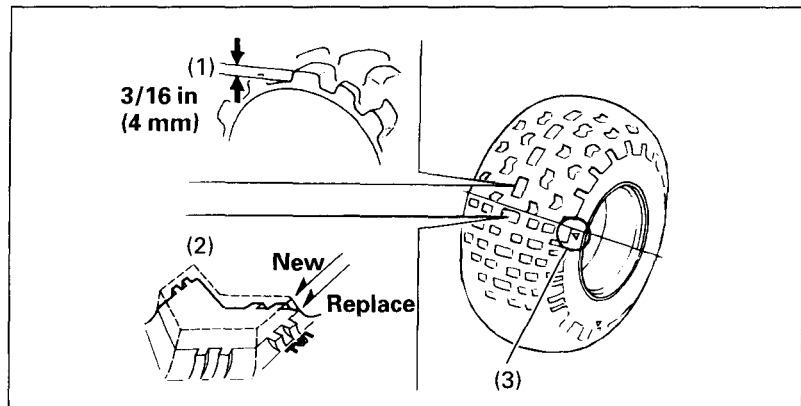

Fig. 4-29
To check the condition of a tire tread, measure the groove depth (1) (Fig. 4-29) in the center of the tire, or check the wear indicator (2).